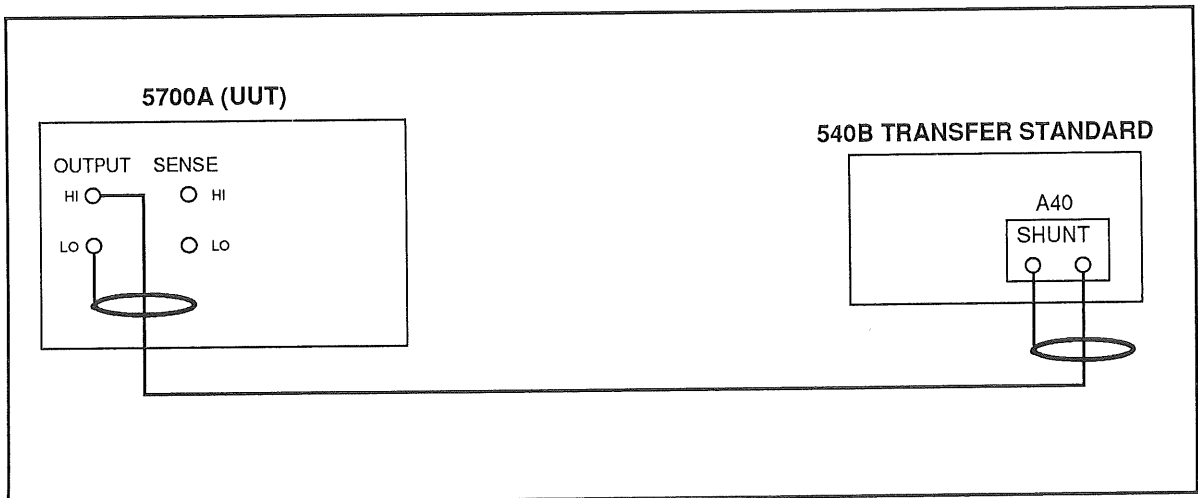

Figure 3-12. Alternating Current Accuracy Verification Test
1. Connect the equipment as shown in Figure 3-12. Use the 2A Current shunt.